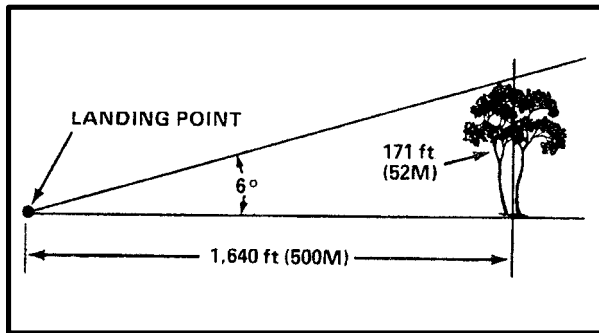

Figure 4-4. Maximum Angle of Approach (Daylight)
**a. Day Approach.** Within the day approach and exit path, the maximum obstruction angle should not exceed 6 degrees measured from the landing point center to a distance of 500 meters (1,640 feet) (Figure 4-4). The maximum obstacle height at 500 meters is 52 meters